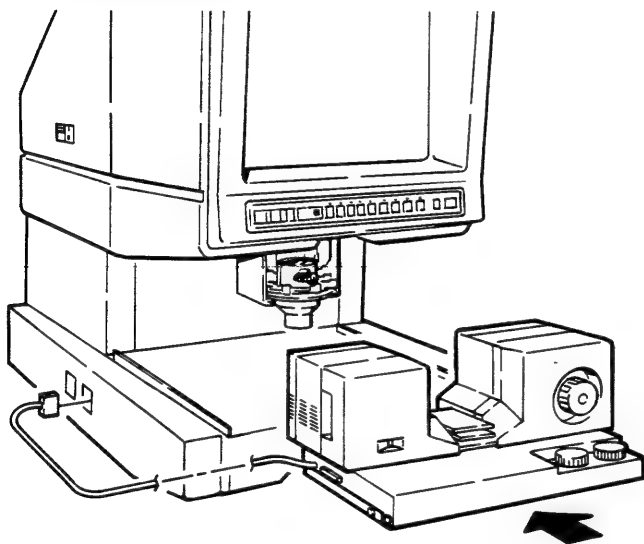

Figure 2-3D
5. Align the Cartridge ANSI Transport within the track of the Accessory Table of the Reader-Printer and push the Cartridge ANSI Transport in until the Latches engage (Figure 2-3D).
6. Plug the Wiring Harness from the M-654 into the M-7530 connector (Figure 2-3D).